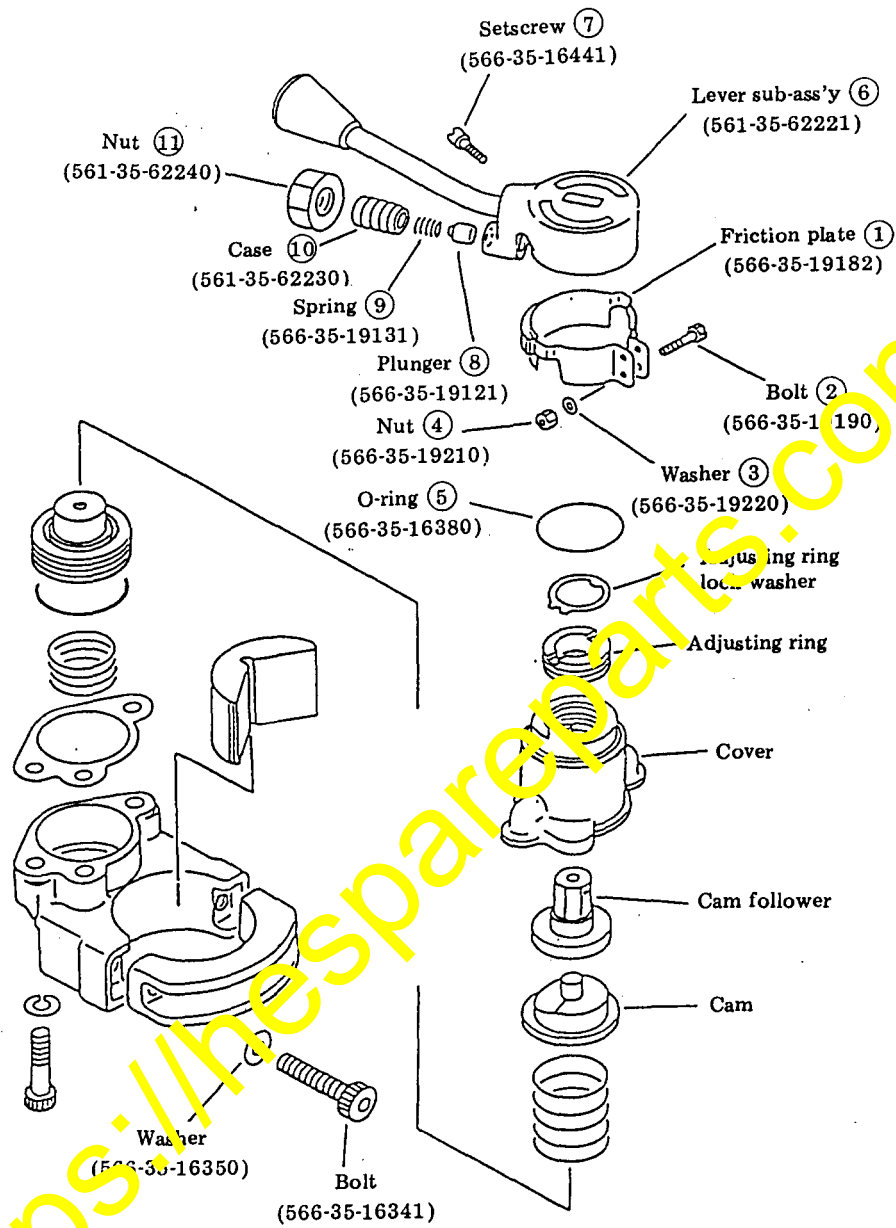

Fig. 3 Parts installation drawing
(2) Installation of parts (See Fig. 3.)
(3) Installation of the valve ass'y (See Fig. 3.)